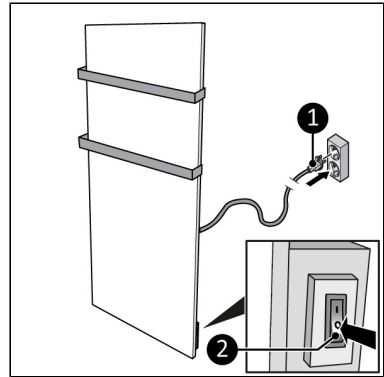

Figure 11.
2. Make sure the ON/OFF switch is in the OFF position (Figure 11, pos. 2).
3. Place the power plug (Figure 11, pos. 1) into an earthed wall socket that is easily accessible. Use an earthed wall socket with a minimum power of 800 Watt.